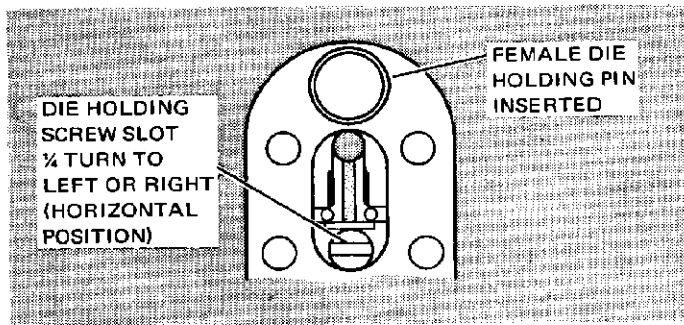

Figure 5
- (h) Open handles slightly and push female die down so that hole in female die lines up with hole in tool. Insert female die holding pin. See Figure 5.
- (g) Turn male die holding screw slot ¼ turn to left or right. (horizontal position) See Figure 5.
- (h) Release take-up lever, then push female die down so that hole in female die lines up with hole in tool. Insert female die holding pin. See Figure 5.